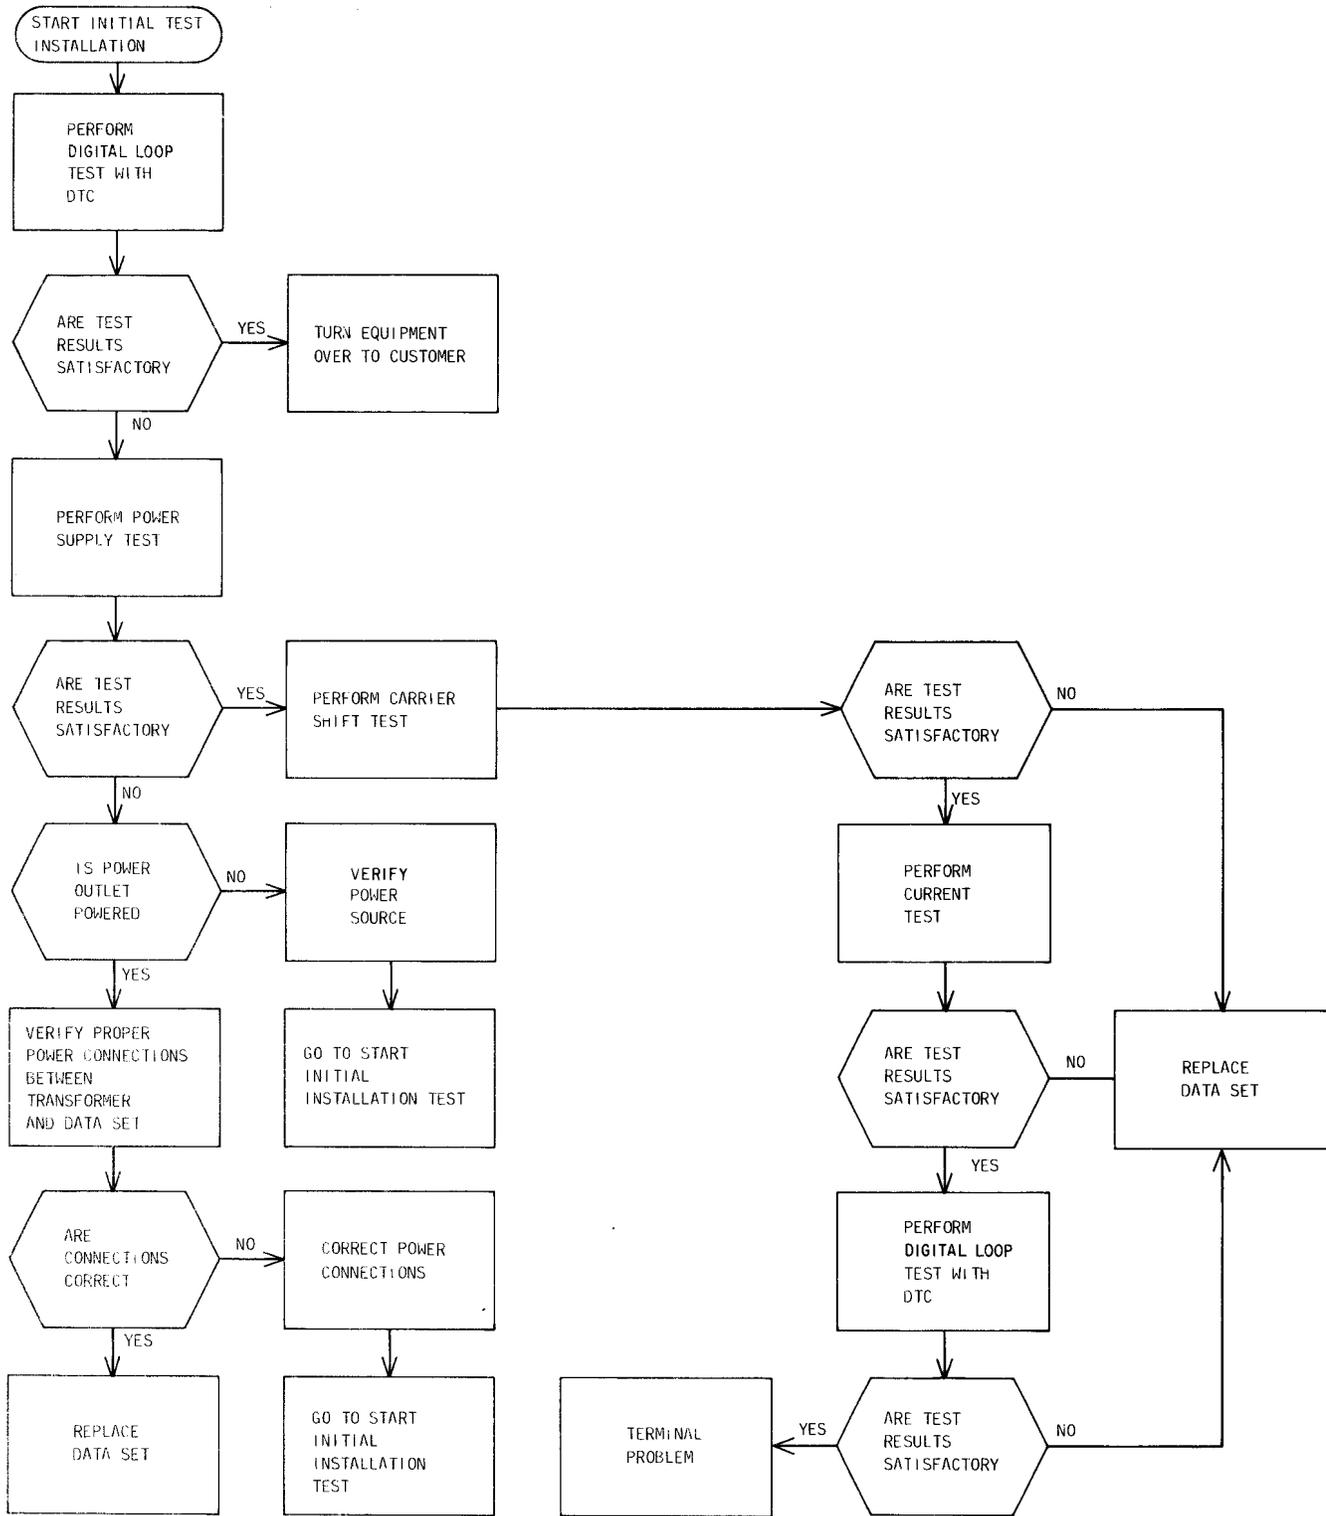

Fig. 1—Installation Test Sequence
**2.01** This part provides the sequence in which tests are to be performed following an installation and trouble report. Refer to Fig. 1 and 2 for the sequence of tests.